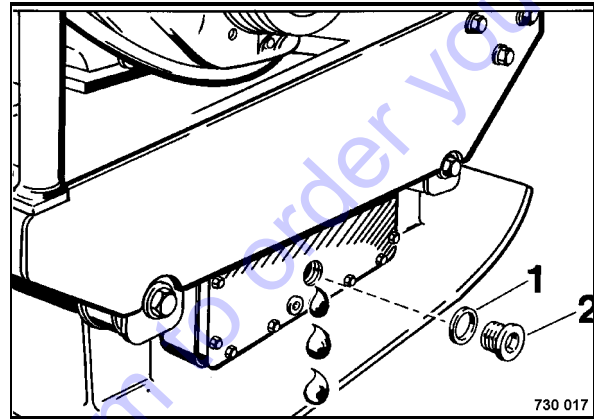

Fig. 32
- Unscrew filler and level plug 2 (Fig. 32) and check the oil level.